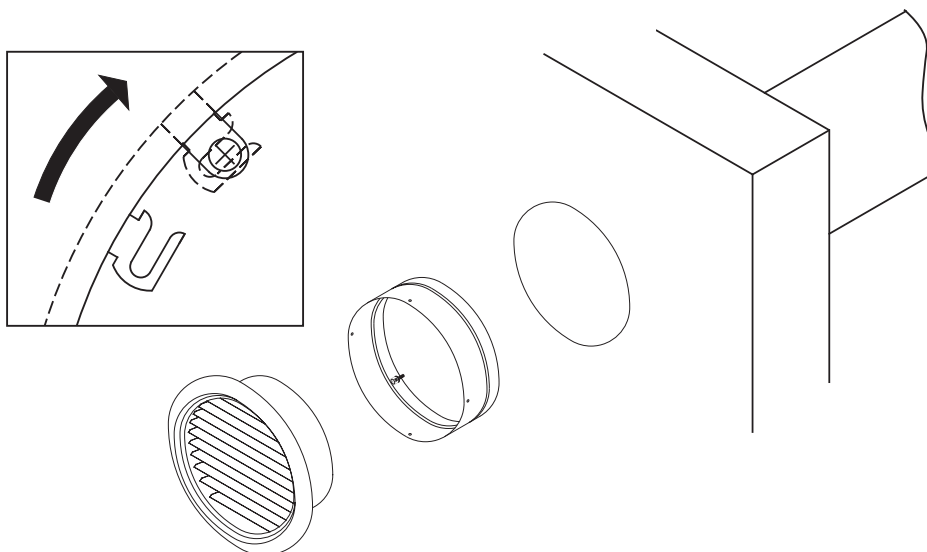

Fig. 3
STEP 3: Look inside the openings of the register and locate the four adjusting screws. Carefully insert a screwdriver and tighten all four adjusting screws until the register is firmly held in place (fig. 3). Be careful to not overtighten.